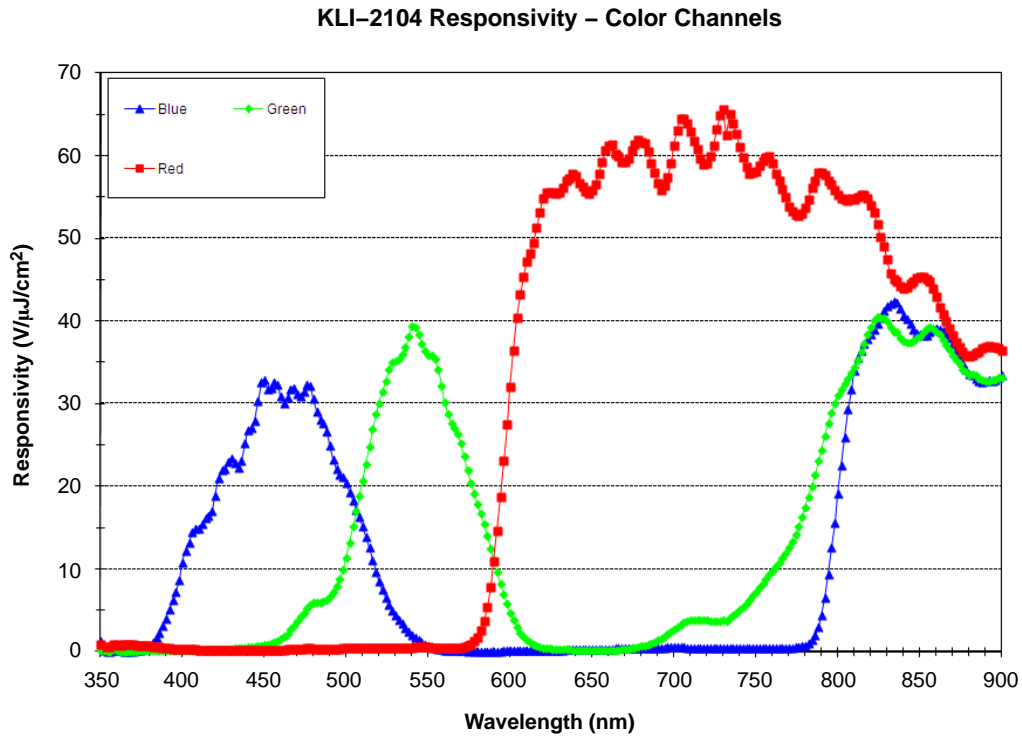

Figure 7. KLI-2104 Responsivity – Color Channels
2. With color filter. Values specified at filter peaks. 50% bandwidth = ±30 nm. Color filter arrays become transparent after 710 nm. It is recommended that a suitable IR cut filter be used to maintain spectral balance and optimal MTF. See quantum efficiency plots in Figure 7.